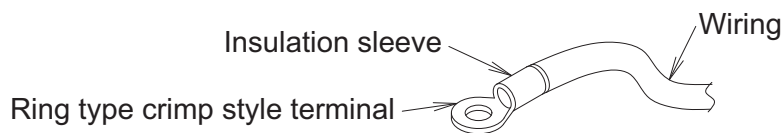

Fig. 37
- For connection to the terminal block for indoor-outdoor transmission wiring, use ring type crimp style terminals with insulation sleeve or treat the wiring with insulation. **(Refer to Fig. 37)**